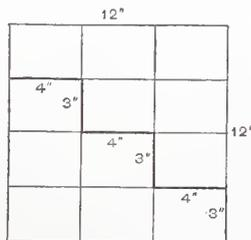

Fig. 2.—W. L. M.'s Method of Joining the Parts.
Figs. 1 and 2 of our novelties this month represent what is known to the trade as Clark's best quality screw-driver, the special feature of which is the handle. This handle is so constructed, as will be readily seen from inspection of the engraving, as to allow the bit to be taken from it at will. The tool is furnished in a neat box, as shown in Fig. 2, the set consisting of three sizes of bits and a handle. Taken altogether, it forms a very handy tool, and is one, we believe, that is destined to find many friends among mechanics. The handle is so con-
Novelties.—Fig. 2.—Case Containing Handle and Set of Screw Drivers.
Fig. 2 is for a case where there are two unequal flares to the hopper. On the right angle A' C D', at D, draw the two flares, as B A, B A', and for the side bevels make C D = A B and C D' = A' B, and connect A D and A' D' for the side bevels shown. Bisect the angles of the flares by the line B X; make C Y = B X, and on X, center, radius X Y, intersect at E, B E being square to C B; connect X E, and on C, center, strike an arc, touching X E to H; square H F to X H, and bisect X F in G, G bevel being the butt and F bevel the miter.
A. S. L. thinks I "have very curious ideas of hopper bevels," and thinks that "few mechanics can be found willing to use a bevel in the manner described by me." Well, I can't help A. S. L.'s geometrical or practical blindness to the advantage of using a bevel in the same manner in which a try-square is used—a manner, too, which makes one independent of whatever form the edge of board might be—say, with both edges rounded to a semicircle. In that case, how would A. S. L. apply the bevel to the edges by his rule? Does A. S. L. think that my present Fig. 2 "has not a single redeeming feature?" No, A. S. L., I am not at all "discouraged," nor do I need to "study carefully," &c., because my rule, as corrected, will, I think, be declared by the readers of this journal, when they weigh the matter, to be the best yet submitted for the solution of hopper bevels.
Hopper Bevels.—Fig. 2.—Accompanying Letter from W. H. C.